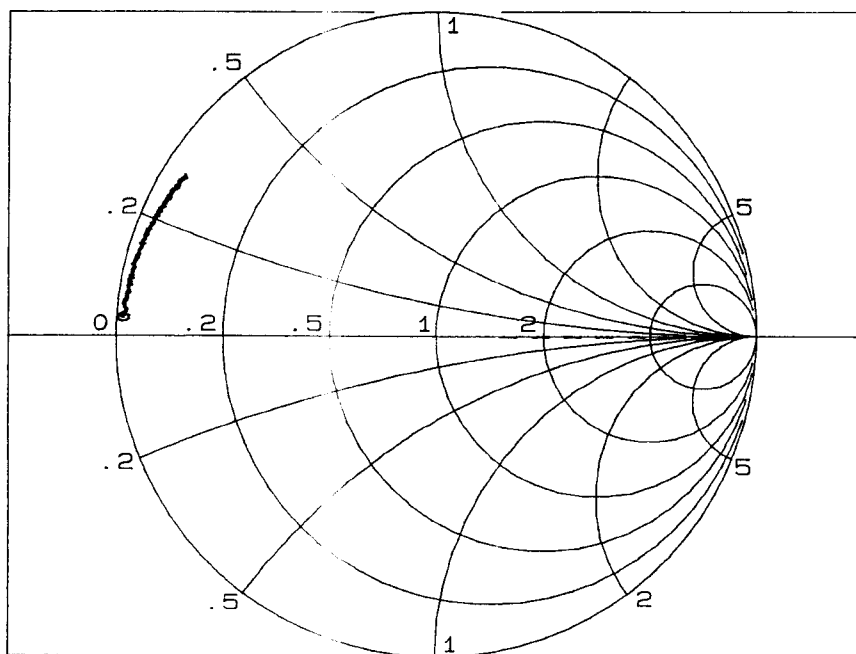
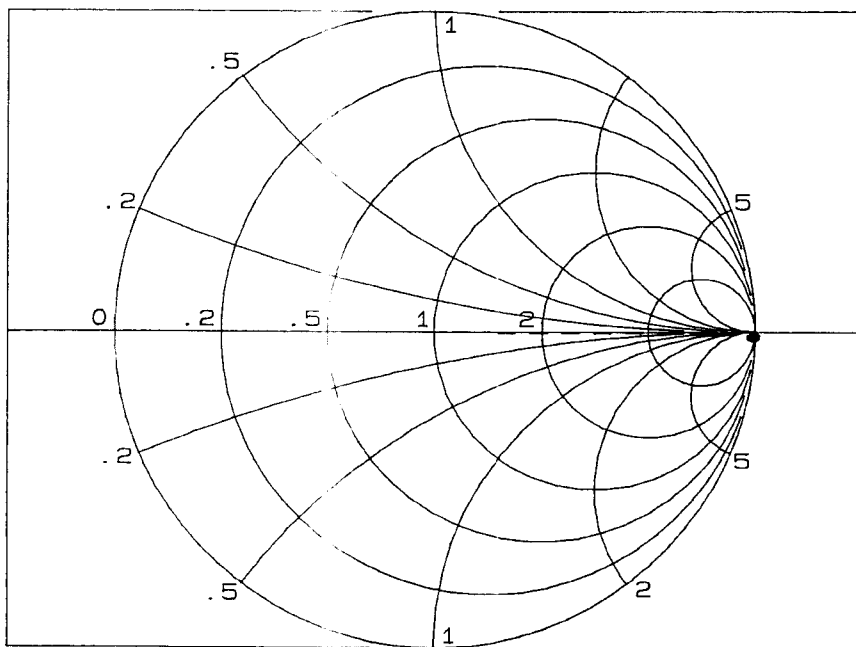

Figure 10. Impedance Plot of Functional HP 11941A
Figure 11. Impedance Plot of HP 11941A with Open Circuit
4. Connect the probe to Port One of the HP 35677A. The impedance display should appear as shown in figure 10. At 100 kHz the measured impedance should approximate that of a short circuit; at 1 MHz the probe should measure inductively, with a maximum normalized impedance value of  $j0.50$ . The most common failure mode for this test would be an open in the input circuitry, in which case the impedance display would appear as shown in figure 11.